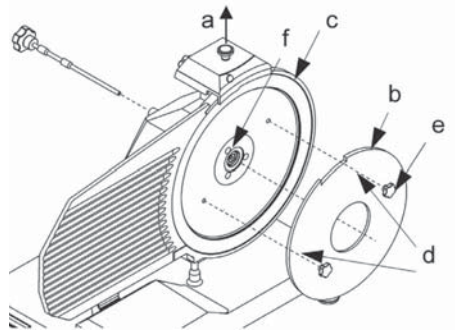

Fig. 7 - Assembling the Plexiglas blade removal tool (b)
To clean the opposite surface of the blade it is necessary to remove the blade (see Fig. 7).
- disassemble the blade guard (see Fig. 7);